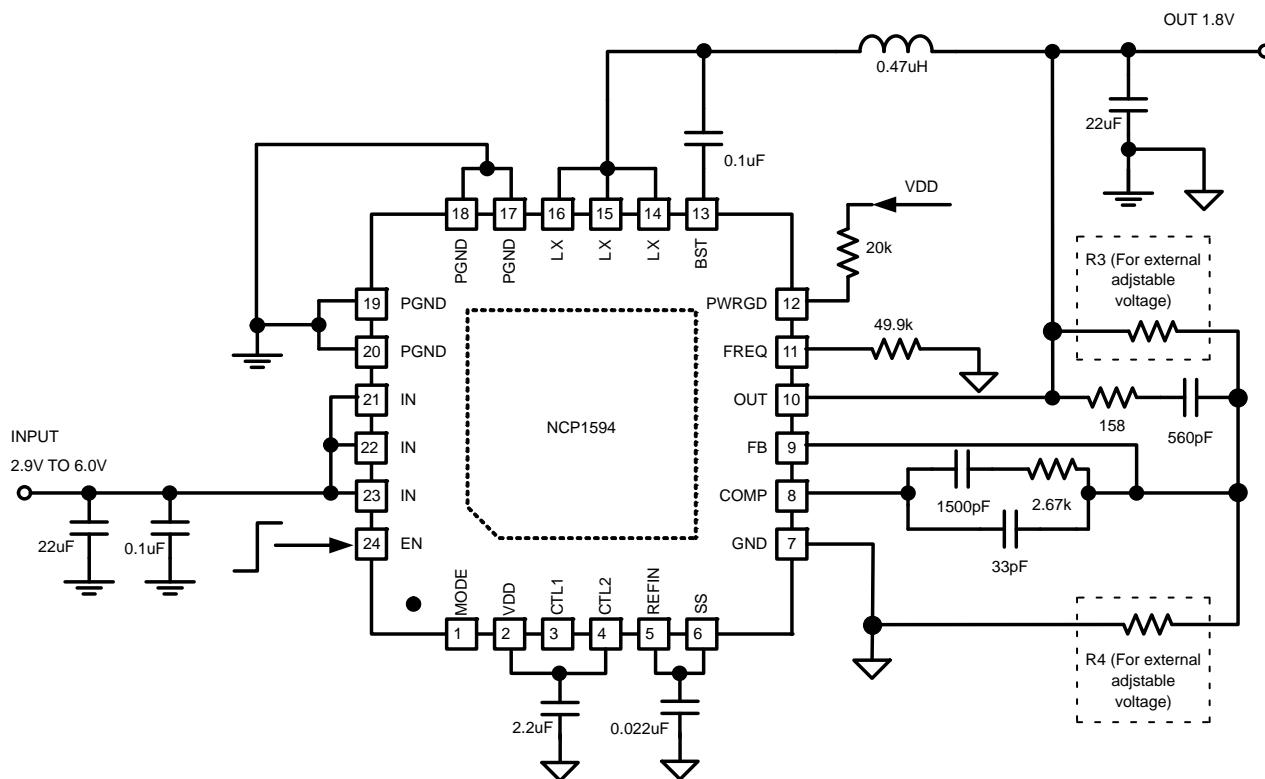

Figure 3. Typical Application Schematic.
*Install an 8.06 kΩ resistor at R3 and do not install a resistor at R4 (see Figure 3).
The high switching frequency range of the NCP1594 allows the use of ceramic output capacitors. Since the ESR of ceramic capacitors is typically very low, the frequency of the associated transfer function zero is higher than the unity-gain crossover frequency, f_{C} , and the zero cannot be used to compensate for the double pole created by the output filtering inductor and capacitor. The double pole produces a gain drop of 40 dB/decade and a phase shift of 180°. The compensation network error amplifier must compensate for this gain drop and phase shift to achieve a stable high-bandwidth closed-loop system. Therefore, use type III compensation as shown in Figures 3 and 4. Type III compensation possesses three poles and two zeros with the first pole, $f_{\text{P1_EA}}$, located at zero frequency (DC). Locations of other poles and zeros of the type III compensation are given by: